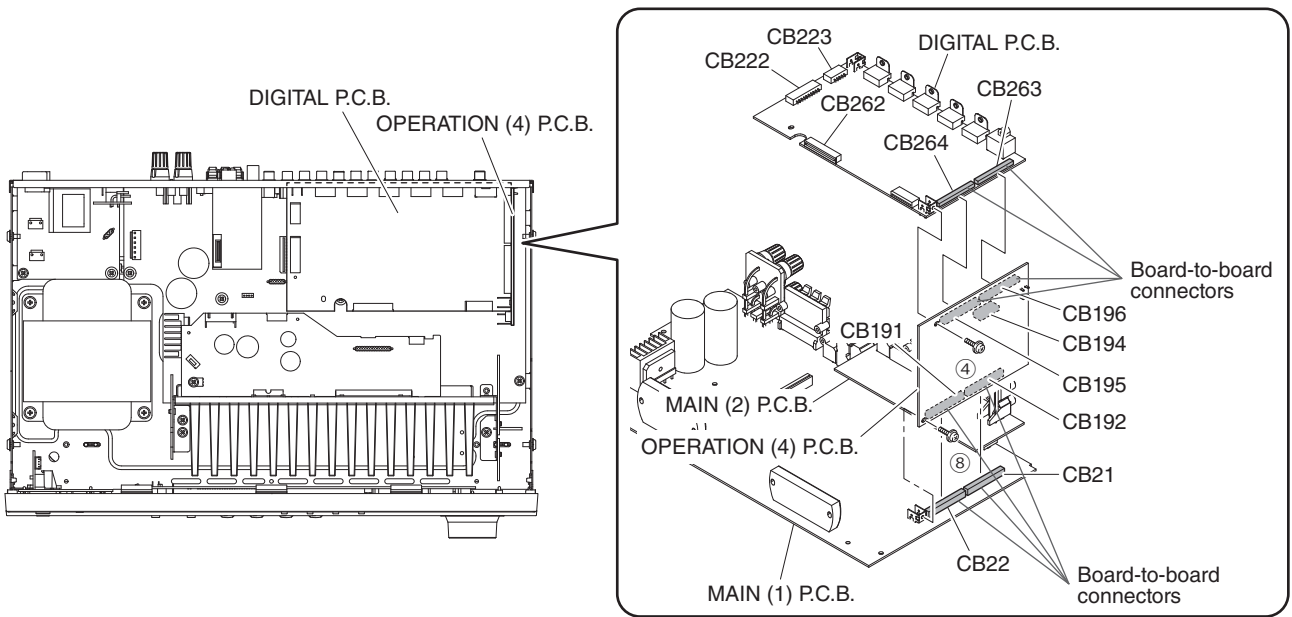

Fig. 2
- a. Remove CB222 and CB223, unlock and remove CB262. (Fig. 2)
- b. Remove screw (4). (Fig. 2)
- d. Remove the DIGITAL P.C.B. which is connected directly to the OPERATION (4) P.C.B. with board-to-board connectors. (Fig. 2)
4. Removal of OPERATION (4) P.C.B.
- a. Remove CB194. (Fig. 2)
- c. Remove the OPERATION (4) P.C.B. which is connected directly to the MAIN (1) P.C.B. with board-to-board connectors. (Fig. 2)